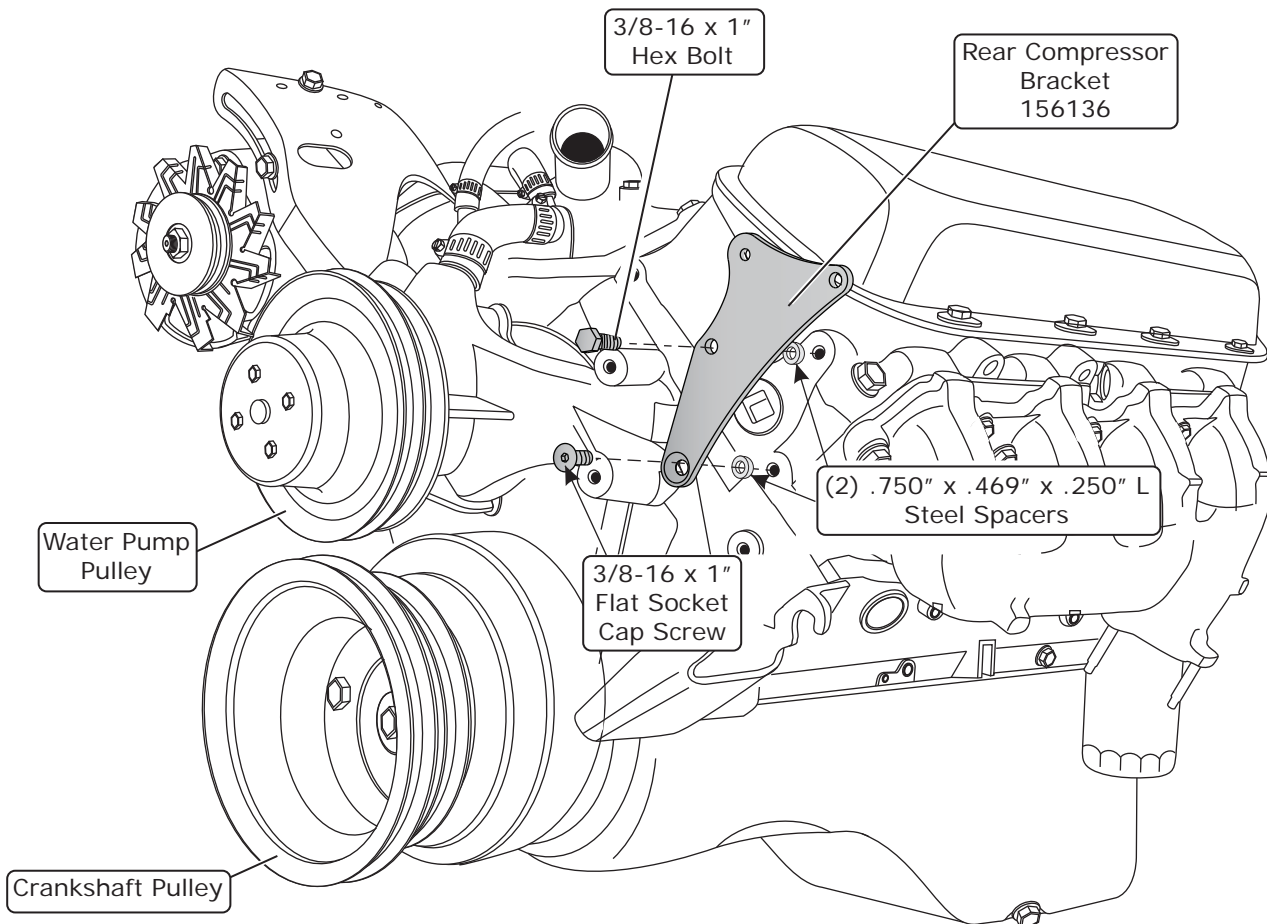

Figure 1
3. Install the rear compressor bracket as shown in Figure 1, below. Place (2) .250" L steel spacers between the bracket and the cylinder head, and secure the bracket by installing a 3/8-16 x 1" hex bolt into the upper mounting hole on the head and a 3/8-16 x 1" flat socket cap screw into the lower mounting hole on the head. **NOTE: Some Big Block Chevrolet heads have 3/8" bolt holes, while others have 7/16" bolt holes. This kit includes both sizes of bolts and flat socket cap screws. For heads with 7/16" bolt holes, it will be necessary to enlarge the corresponding holes on the rear compressor bracket to 7/16" to allow installation of the 7/16-14 x 1" hex bolt and 7/16-14 x 1" flat socket cap screw.**